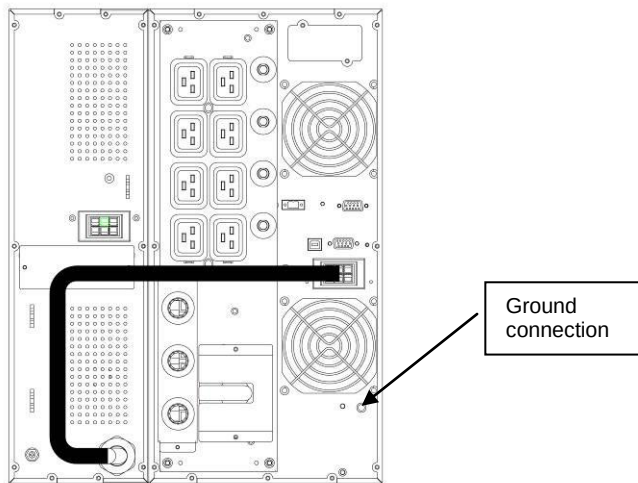

Figure 6: XANTO S 10000 with BP, Tower (rear view)
1. Connect each battery module to the ground connection (screw on the rear side) using an additional cable (at least AWG 8, 6mm²) at the ground potential (see Figure 6 bottom right).
3. Connect all plug connections between the battery modules and the UPS system (see Figure 6). Up to four batteries can be connected to the UPS system.